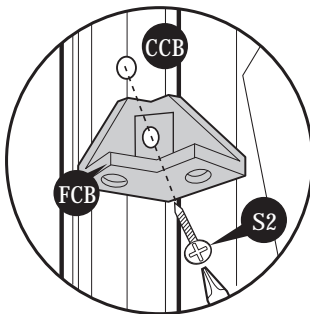

Fig.1: Use (S2) screw.
8. Stabilize the side panels with center band (CB2B). Start with the center band fitting (FCB). Fix to corner column (CCB) with (S2) screws. See figures (fig.1) (fig.2) (fig.3) and (fig.4).